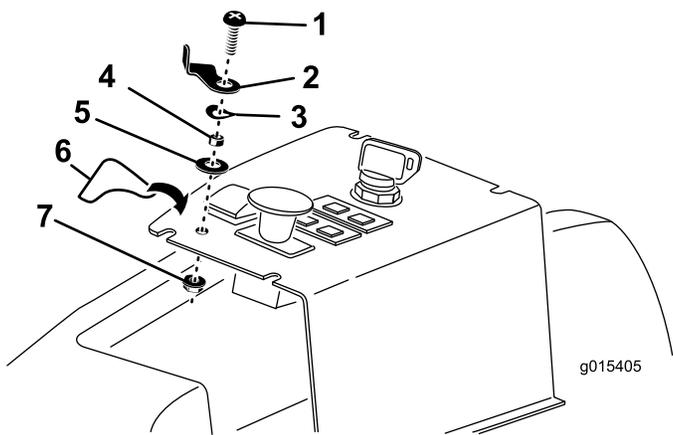

Figure 13
- Insert the lift lock lever, spacer, wave washer and flat washer onto the 1/4 x 1 inch pan head screw positioning as shown in Figure 13.
4. Insert the lift lock lever assembly screw into the control panel hole and secure it with a lock nut. Position the lift lock lever as shown in Figure 13.
5. Affix the lift lock lever decal to the control panel, positioning as shown in Figure 13.